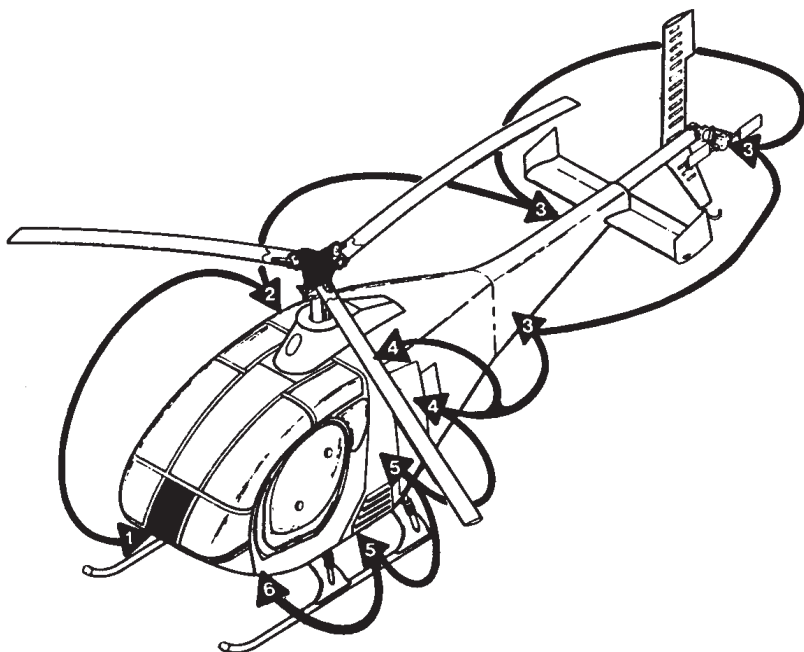

Figure 4-1. Pilot's Preflight Guide
- Preflight inspections are grouped and numbered by location (Fig. 4-1) so they can be performed on an area-by-area basis. Inspection of the entire helicopter may be accomplished by starting at the front and working in clockwise progression to completion.